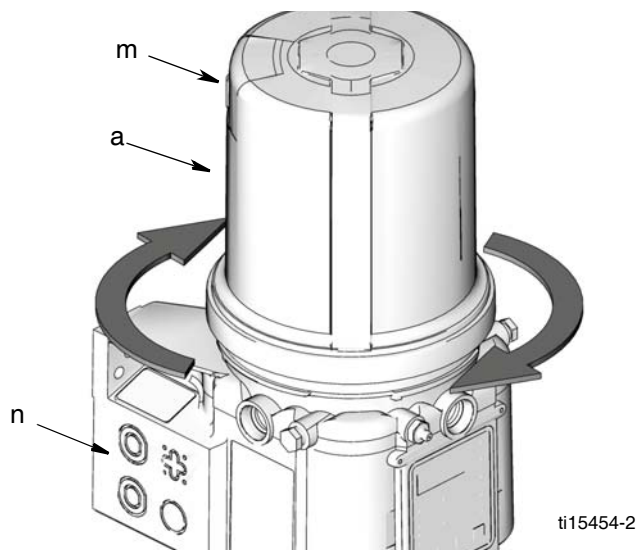

FIG. 17
2. Install reservoir (a) with vent (m) facing toward the rear left (n) of the G3 base. See FIG. 17 for correct orientation of these parts to ensure proper installation.